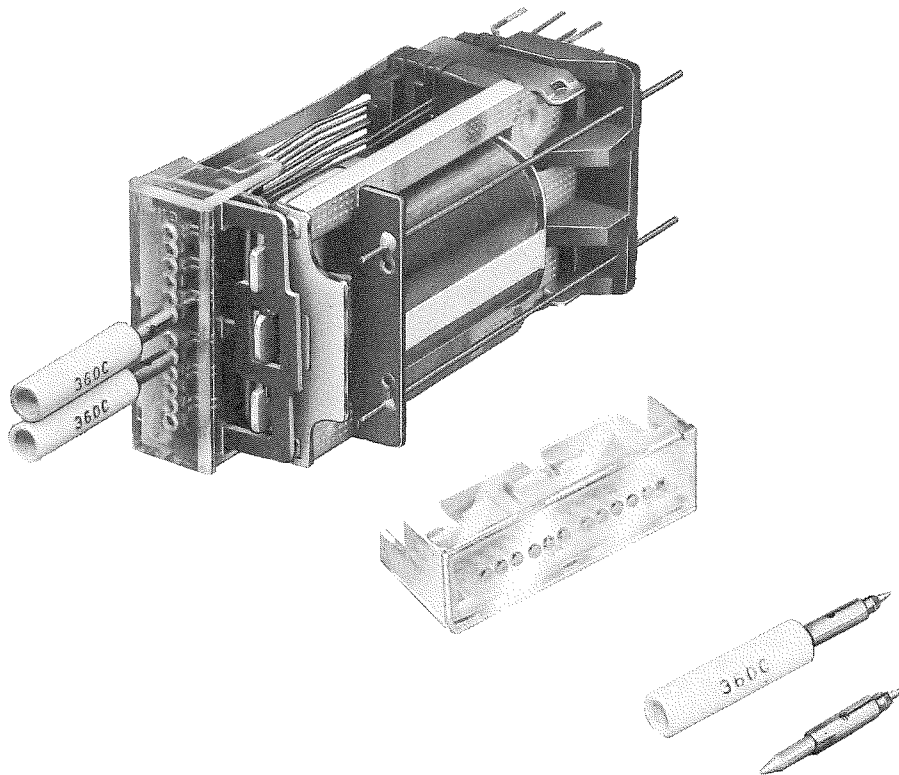

Fig. VIII-1 - Method of Connecting to Fixed Contacts
14. Tool to connect to fixed contacts (651B, 651C, or 651D and 639A) (Fig. VIII-1)